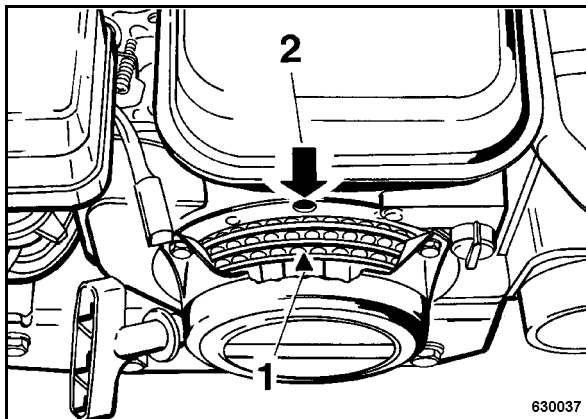

Fig. 50
- For this purpose align triangle mark (1) (Fig. 50) on the starter disc to the top bore (2).